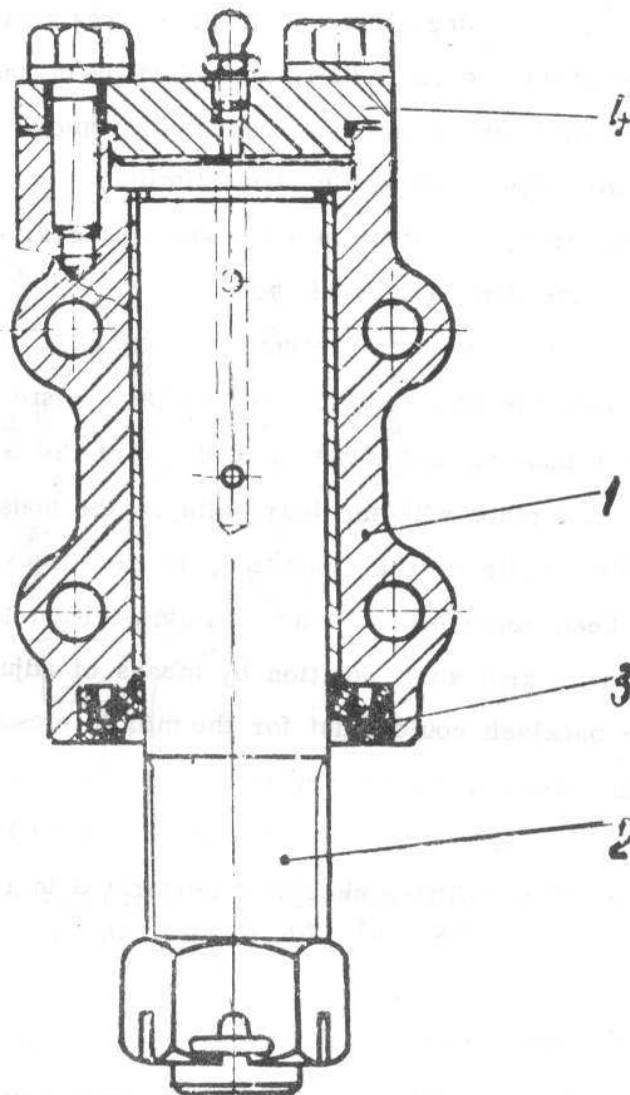

Fig. 4.144. PIVOT CASE & PIVOT ASSY
- Undo and remove split pin and unscrew the nut fastening the drop arm on the steering pivot (2) - see Fig. 4.144.
- Unscrew bolts fastening the pivot case cover (4) and remove cover with its gasket.